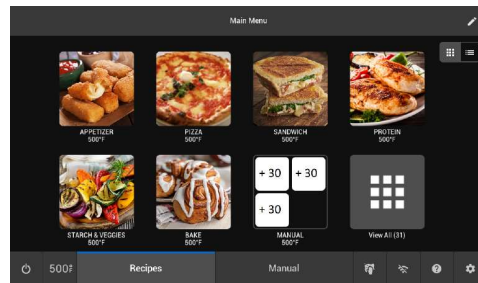

Figure 32: Select Groups to Place Recipe Into
5. Select a recipe (or recipes) to add to the group (Figure 32, below).